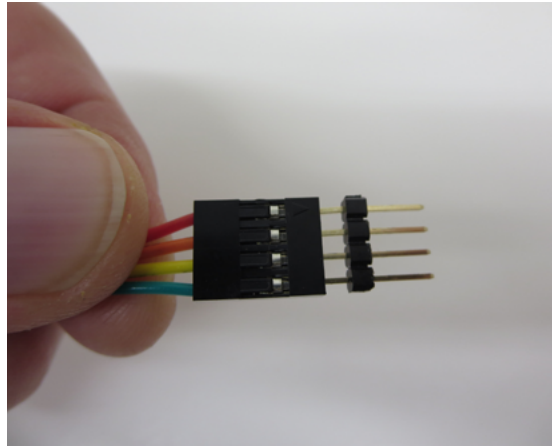

Fig.20
1. Insert the 4 position M/M Header into one end of the 4 wire Ultrasonic Sensor Cable As shown in Fig.20